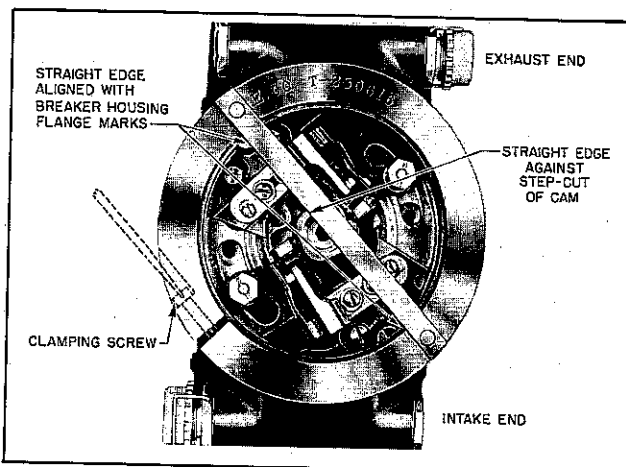

Figure 81—Magneto Timing Clamp Tool in Place on Magneto.
(2) Before the magneto is placed on engine remove the magneto breaker cover. Install Timing Clamp Tool No. 250616 (Overhaul Tool) firmly on top of the breaker cup, locating the straight edge of the tool against the shoulder of the step cut on the upper end of the cam, then align the straight edge with the two diametrically located marks on the breaker cup diameter. (See Figure 81.) Make certain that face of magneto mounting flange and mounting pad surface on engine are clean and smooth. With the engines located in the above timing position set the magneto on the engine with the magneto gasket in place and the